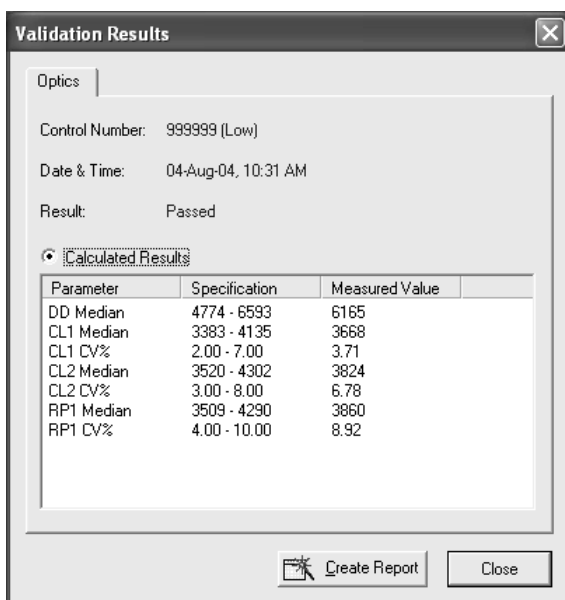

Fig. 5. Optics validation results.
10. When the procedure has been completed, the results will be displayed in a dialog box, as shown in Figure 5: